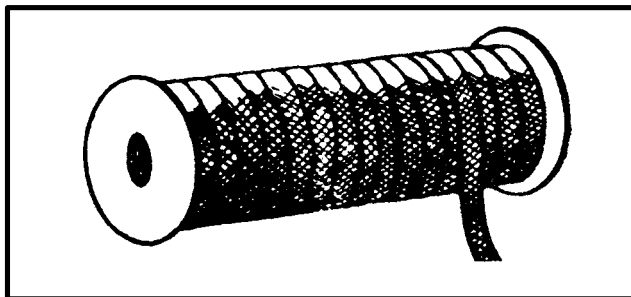

Figure 8-14. 1/4-Inch Cotton Webbing
(1) Several wraps of tape are used to gather together and hold the sling legs on top of the load after the sling is attached to the load and before it is hooked up to the helicopter. This breakaway technique taping reduces the risk of the sling legs becoming entangled during hookup. The tape will break, freeing the sling legs during the lifting operation.
(2) To prevent loose chain ends from whipping and damaging equipment.
(3) To attach protective padding to slings or the load itself.
(4) To secure chain loop or sling legs in place before load is lifted.
**b. Cotton Webbing.** Cotton webbing is used as an alternative to pressure-sensitive tape. The 1/4-inch wide Type I cotton webbing (Figure 8-14) is rated at 80 pounds breaking strength. Cotton webbing is also used to combine and hold the legs of the cargo sling on top of the load after the sling legs are attached. Once tension is applied to the sling, the webbing will break, freeing the sling legs for normal weight-carrying configuration. This breakaway technique reduces the risk of the sling legs fouling on the load during hookup and lift-off.